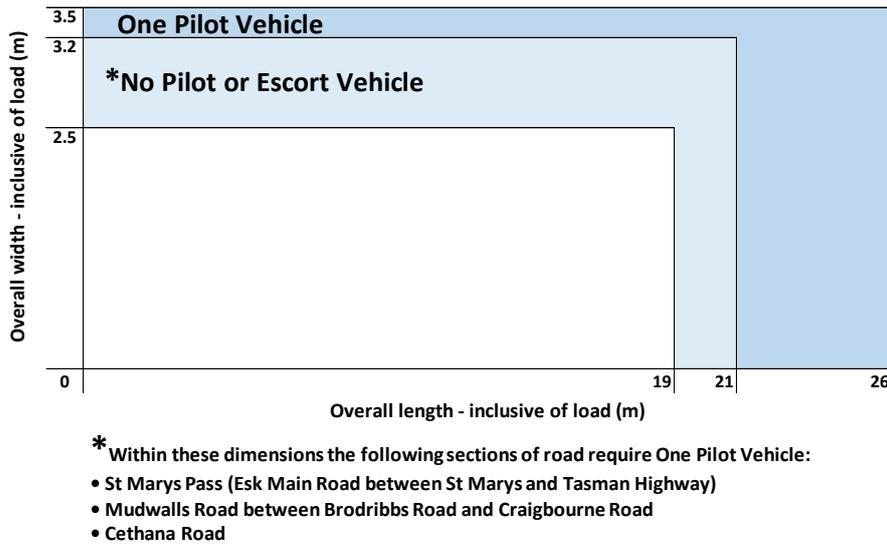

Figure 8: Pilot and escort vehicle requirements for blue roads on LCV Class I map daylight travel
- Have a vertical rigid yellow retro-reflective dual faced warning sign on its roof with black lettering stating, “OVERSIZE LOAD AHEAD” (see figure 8). The sign must not be displayed when not operating as a Pilot Vehicle - s26
The requirements for blue colour coded roads are shown in Figures 8 and 9 for daylight and night-time travel respectively. Travel on blue roads introduces a requirement for a pilot vehicle for loads exceeding dimensions of 3.2m width or 21m length in the daylight, or 3.1m width or 21m length in at night-time.